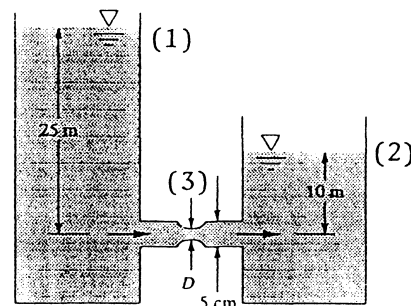

Fig. P3.171
**3.171** For the  $40^\circ\text{C}$  water flow in Fig. P3.171, estimate the volume flow through the pipe, assuming no losses; then explain what is wrong with this seemingly innocent question. If the actual flow rate is  $Q = 40 \text{ m}^3/\text{h}$ , compute (a) the head loss in ft and (b) the constriction diameter  $D$  which causes cavitation, assuming that the throat divides the head loss equally and that changing the constriction causes no additional losses.